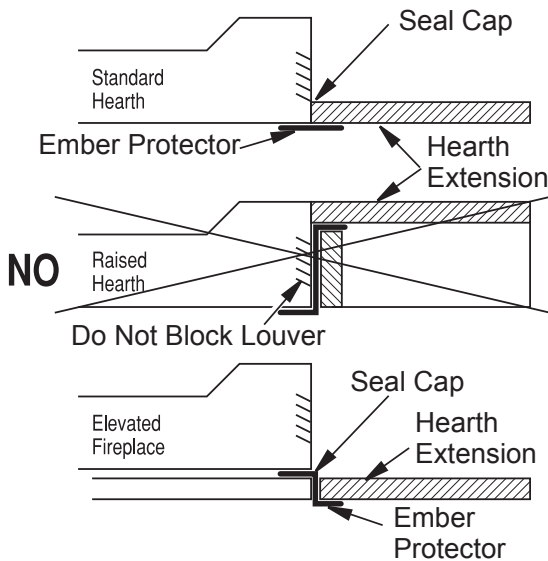

Figure 5- Hearth Extensions
5. Before securing fireplace to prepared framing, ember protector (provided) must be placed between hearth extension (not supplied) and under bottom front edge of fireplace to protect against glowing embers falling through. If fireplace is to be installed on a raised platform, a Z-type ember protector (not supplied) must be fabricated to fit your required platform height. Ember protector should extend under fireplace a minimum of 1". Ember protector should be made of galvanized sheet metal (28 gauge minimum) to prevent corrosion (see Figure 5).
⚠ WARNING: Hearth extension is to be installed only as shown in Figure 5.